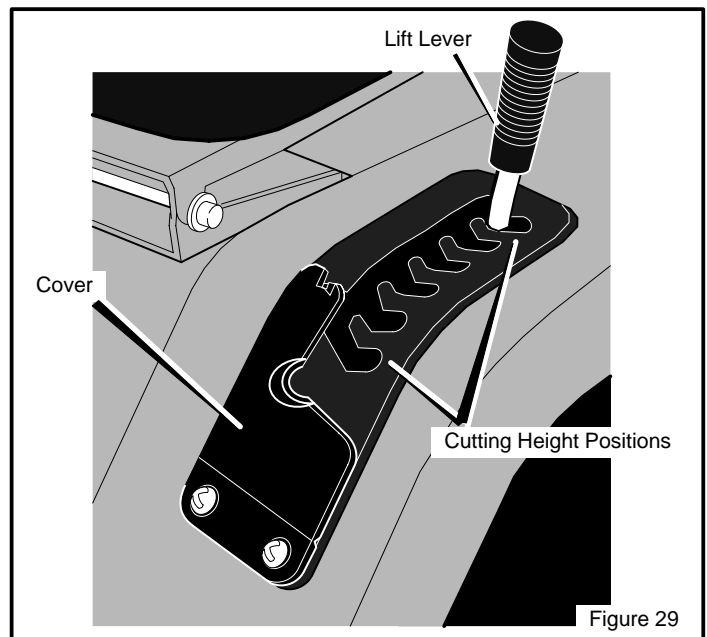

Figure 29
8. Raise the **lift lever** from the LEVEL ADJUSTMENT position to a CUTTING HEIGHT position (Figure 29).